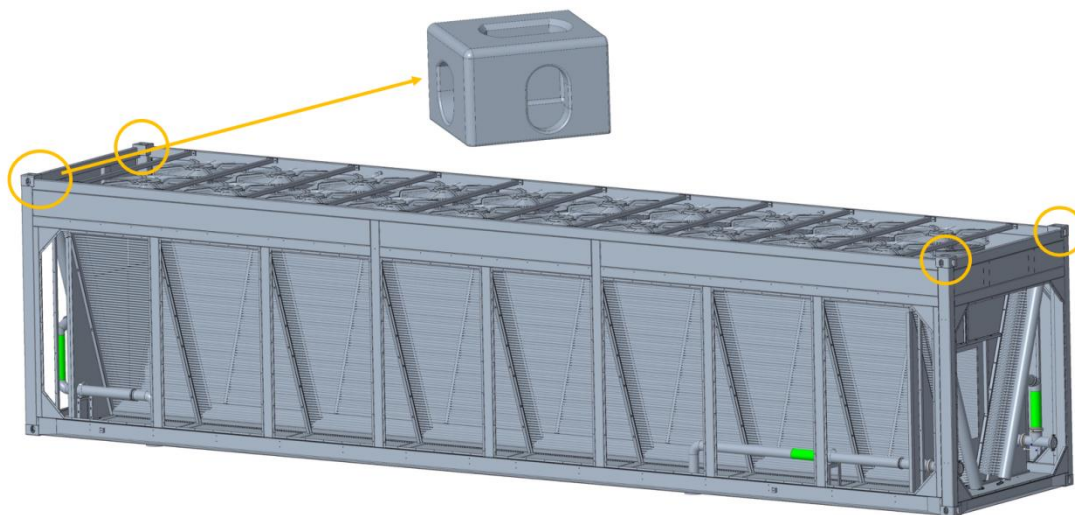

Figure 6.2 Lifting point diagram
- Pass the lifting slings through the four corner fittings above the unit respectively, and the positions of the corner fittings are shown in Figure 6.2;